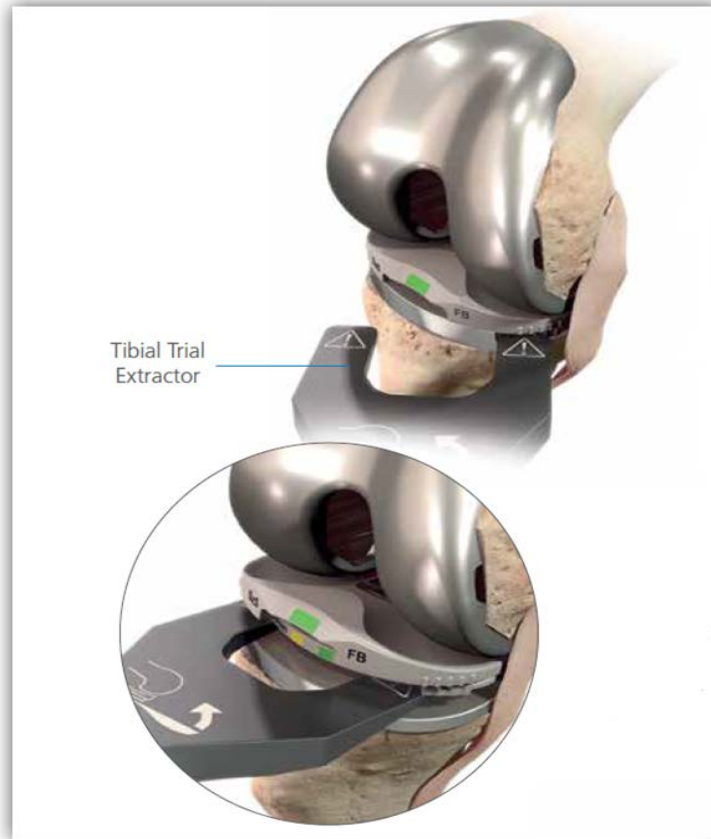

Figure 4: Image is From the ATTUNE® INTUITION™ Instruments Surgical Technique and Shows the Correct Use of the Tibial Trial Extractor
- c) When using the Tibial Trial Extractor with the fixed bearing implant (*Figure 4*):